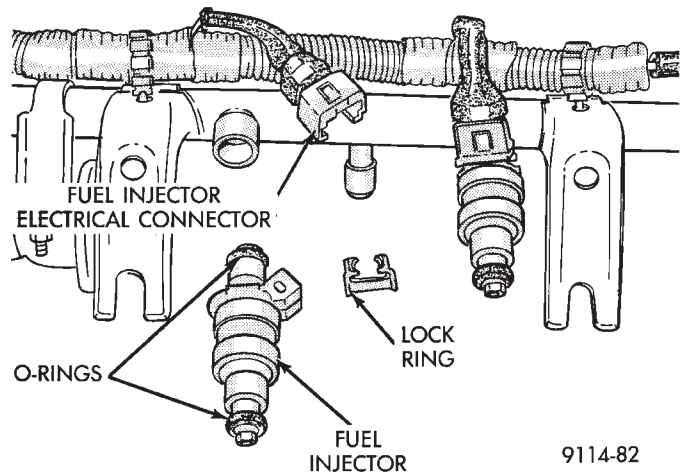

Fig. 10 Fuel Rail and Injector Assembly
(1) Disconnect injector electrical connector from injector. (Fig. 10).